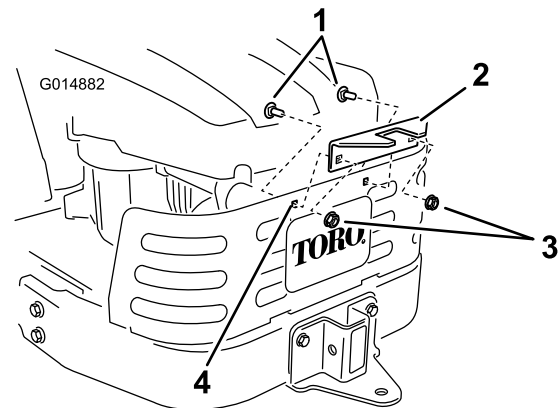

Figure 13
4. Install the bagger frame to the support bracket. Secure the bagger frame with a clevis pin (1/2 x 2-1/4 inch) and hair pin cotter (Figure 13).